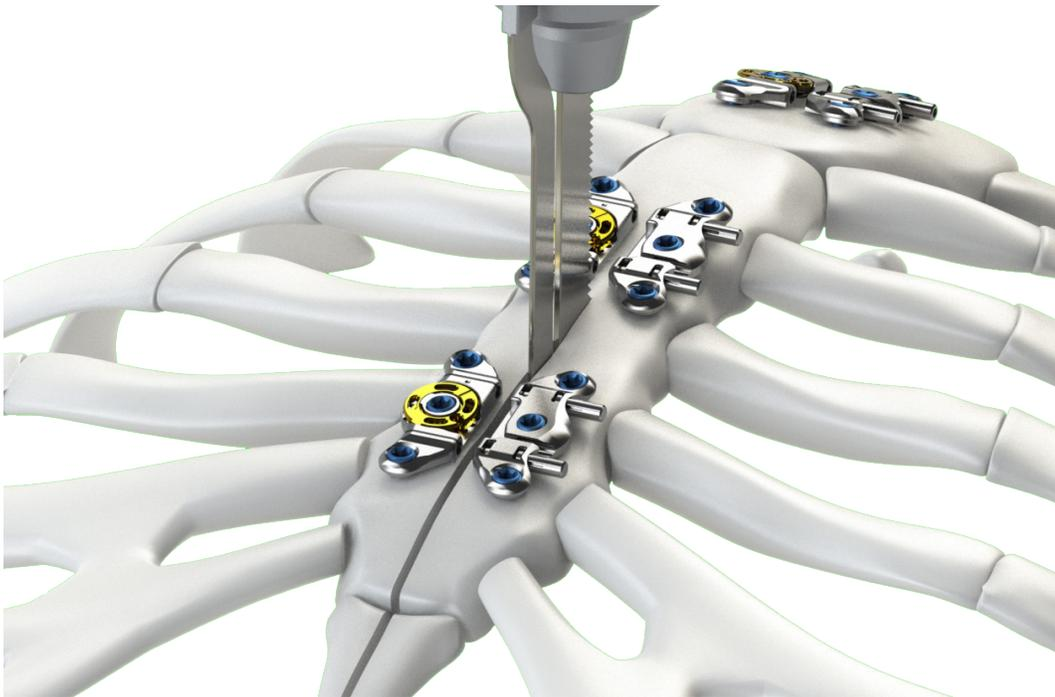

figure 8: Sternotomy performed between Grand Pre implants
- Execute the sternotomy down the midline of the sternum cutting between the Grand Pre plates (*figure 8*).